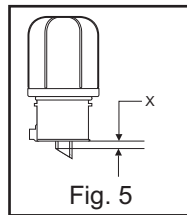

Fig. 5
8. Measure the distance between Opto-Matic Oiler casting edge and top edge of spout angle (Fig 5). Mark this distance above the original line made in step 7 on the outside of the Opto-Matic lower casting (Fig. 6). Now the bottom of the reservoir assembly can be used as an indicator of oil level.